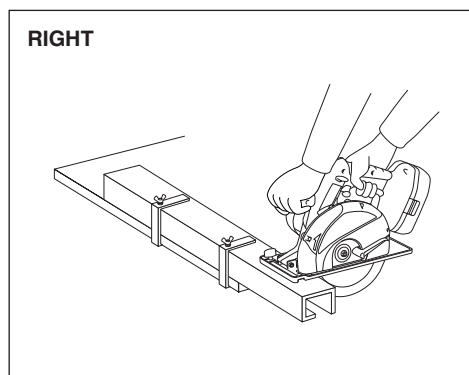
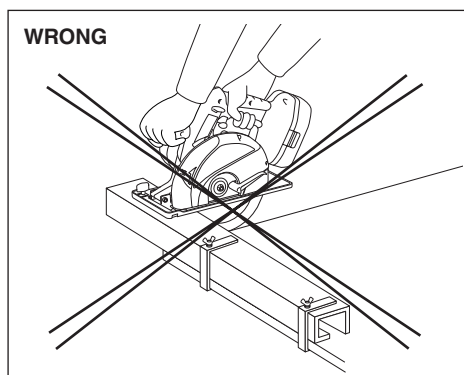

Fig.10
Fig.11
1. Place the wider part of the shoe on the part of the work piece which is solidly supported (See Fig.10), never on the section that will fall off when the cut is made. (See Fig.11)